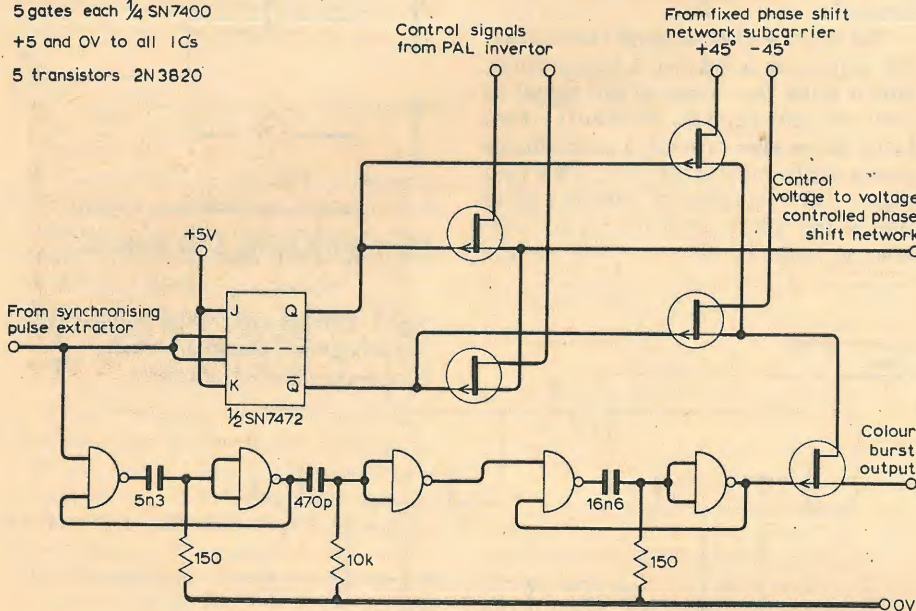

Fig. 11. Burst gating and line-frequency divider.
**Burst gate and line dividers.** Synchronizing pulses are fed to the half-line frequency divider and burst gating generator in Fig. 11. The half-line frequency switching-pulse generator is simply a t.t.l. bistable element, the burst gating generator consisting of two monostables. The colour burst is 2.5µs long, occurring 0.8µs after the line synchronizing pulse. The first monostable, triggered on the negative edge of the incoming pulses, provides the 0.8µs delay, its output pulse being inverted and used to trigger the 2.5µs monostable, which produces the burst gating pulse.